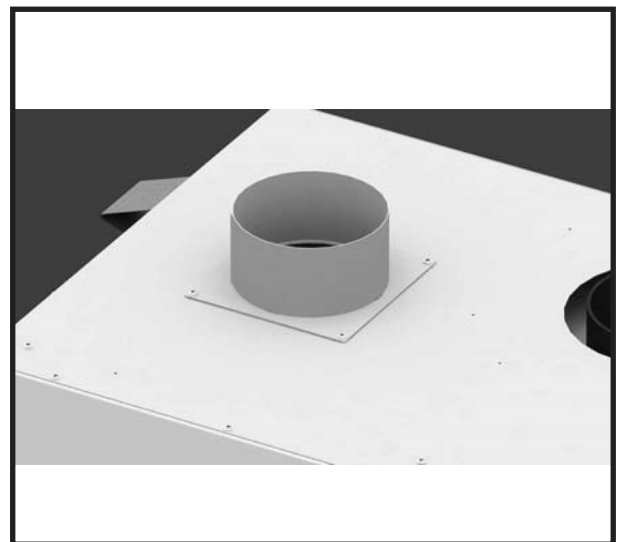

Figure 23: Duct collar.
4. Attach the Duct Adapter to the top of the fireplace over top of the Backflow Damper (Figure 23). Using 4 screws secure both pieces to the Fireplace's outer casing.